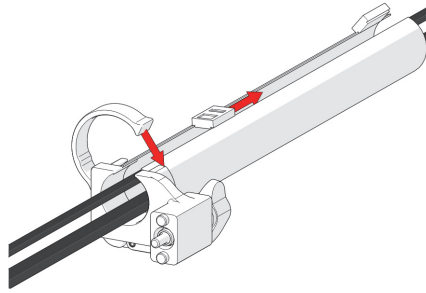

Figure 2-128 Zip to close
2. As you place the cable in the tube, follow along zipping the tube closed (see Figure 2-128 on page 146).